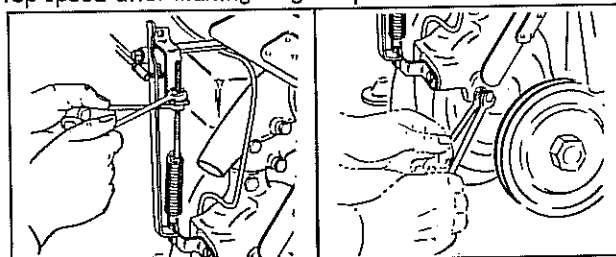

Figure 2. Governor Speed Control (left), Surge (right)
trol nut, as shown in figure 2, which decreases tension on spring. To increase speed, tighten speed control nut.
c. If engine should surge or not maintain steady top speed, then adjustment for the surge can be made at the governor spring bumper screw in the gear cover by loosening the lock nut and turning bumper screw, as shown in figure 2, to the right until surging ceases and engine runs steady at top speed. Tighten lock nut securely after adjustment. It may be necessary to readjust top speed after making surge adjustment.